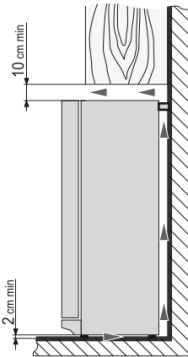

fig. 6
- Maintain a minimum of 10 cm between the top of the device and objects located above it (e.g. cupboards). Failure to do so may result in increased energy use or overheating of the compressor (**fig. 6**).